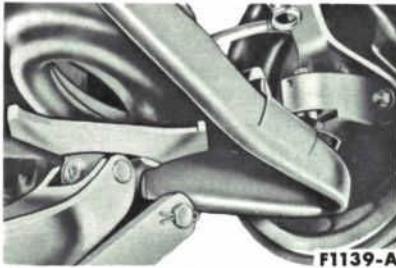

FIG. 87 – Jack Positioned Under Lower Arm
3. Using the remover tool, loosen the lower stud in the spindle. Place a jack under the lower arm at approximately a 60° angle away from the wheel and toward the center of the car. Hook the saddle of the jack over the outer edge of the spring seat (Fig. 87).